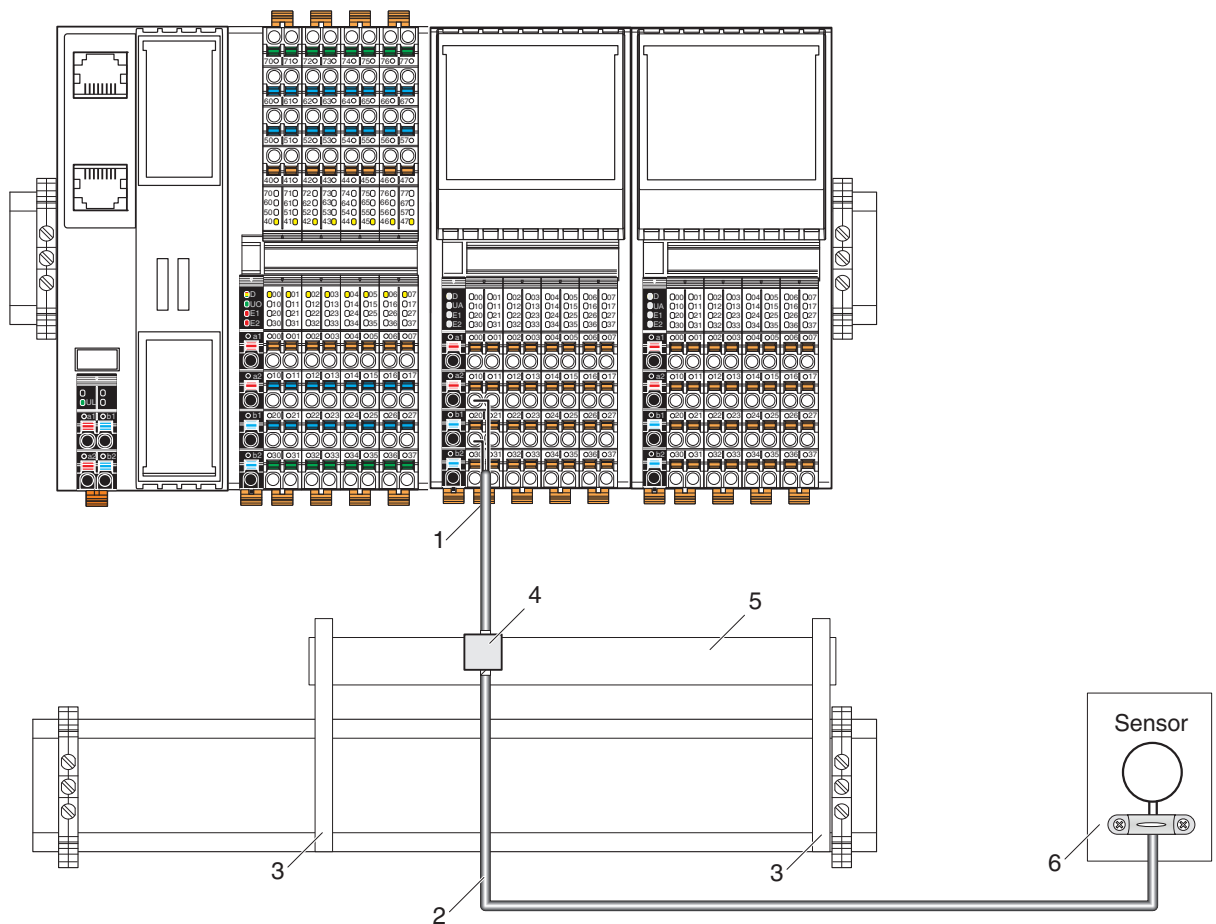
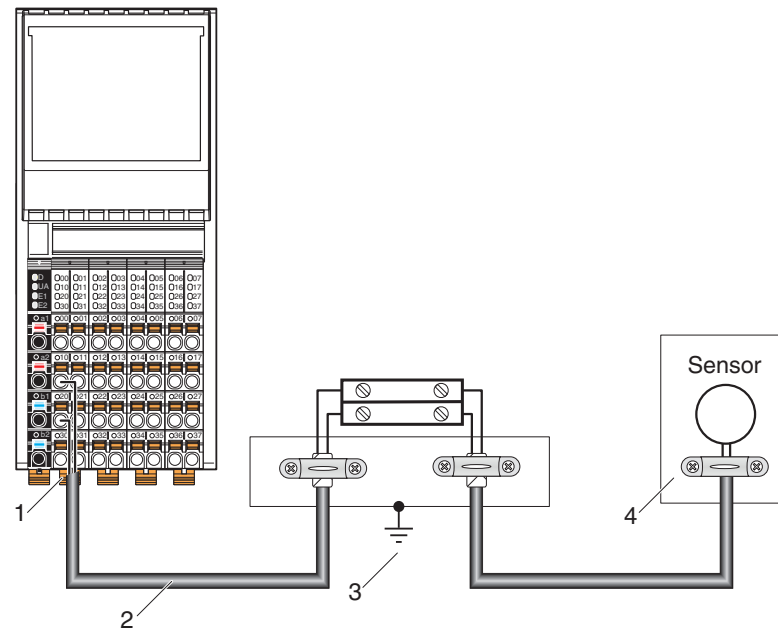

Fig. 9-9 Connecting the shielding to a busbar
Fig. 9-10 Integration of analog shielding in a concept with central equipotential bonding at the control cabinet entry
- Connect the shielding via a shield bus. (see Fig. 9-9)
- As a rule, shielding must only be connected directly to the FE potential on one side. This is to prevent any occurrence of equipotential bonding currents via the shielding (see Fig. 9-9 and Fig. 9-10).
- If necessary, integrate the shielding concept for analog I/O cables in the system concept. For example, it is advisable to use a central FE shield connection at the control cabinet entry (see Fig. 9-10).